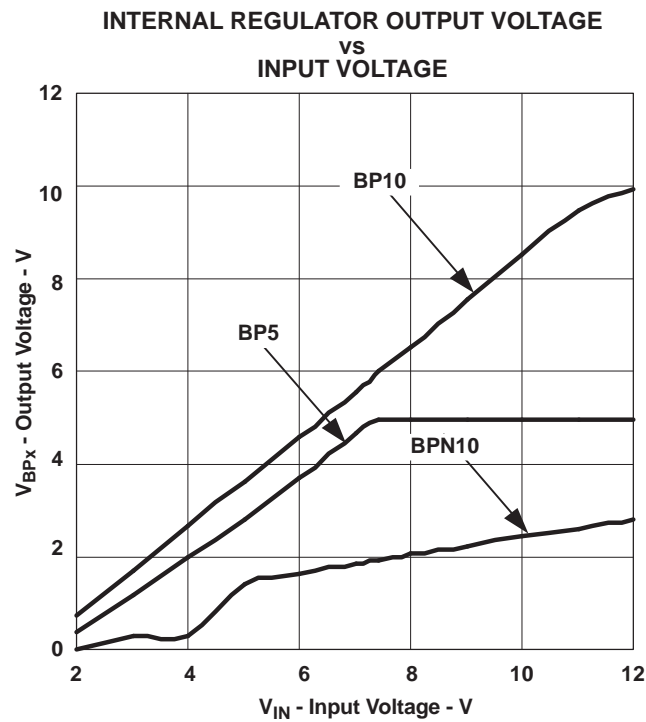

Figure 7.
The second tier consists of a fault counter. The fault counter is incremented on an overcurrent pulse and decremented on a clock cycle without an overcurrent pulse. When the counter reaches seven (7) a restart is issued and seven soft-start cycles are initiated. Both the upper and lower MOSFETs are turned off during this period. The counter is decremented on each soft-start cycle. When the counter is decremented to zero, the PWM is re-enabled. If the fault has been removed the output starts up normally. If the output is still present the counter counts seven overcurrent pulses and re-enters the second-tier fault mode. See Figure 7 for typical overcurrent protection waveforms.
Start-up characteristics of the BP5, BP10 and BPN10 regulators are shown in Figure 7. Slight variations in the BP5 occurs dependent upon the switching frequency. Variation in the BPN10 and BP10 regulation characteristics is also based on the load presented by switching the external MOSFETs.